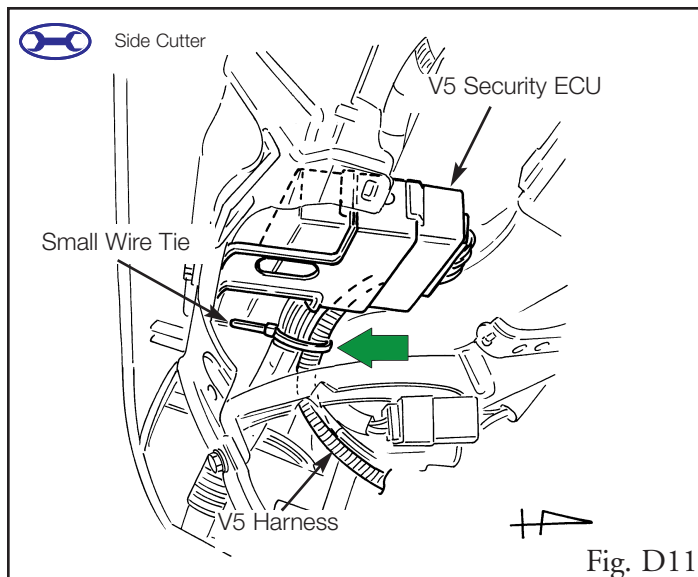

Fig. D11
11. Secure the V5 harness to the vehicle's harness with one small wire tie. (Fig. D11)